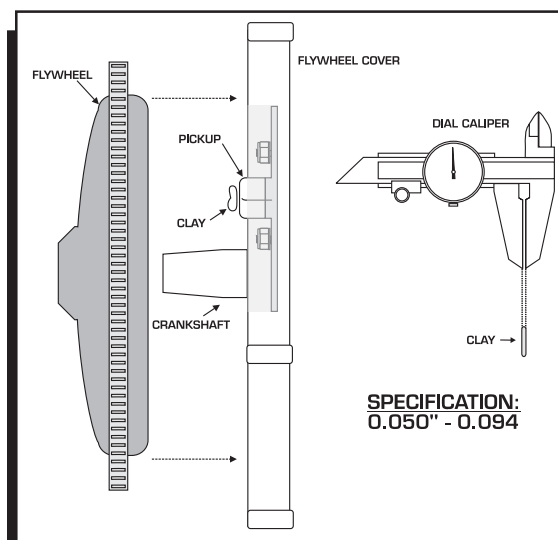

Figure 11 Checking the Air Gap.
1. Position a small amount of clay on the top of the trigger pickup (Figure 11).